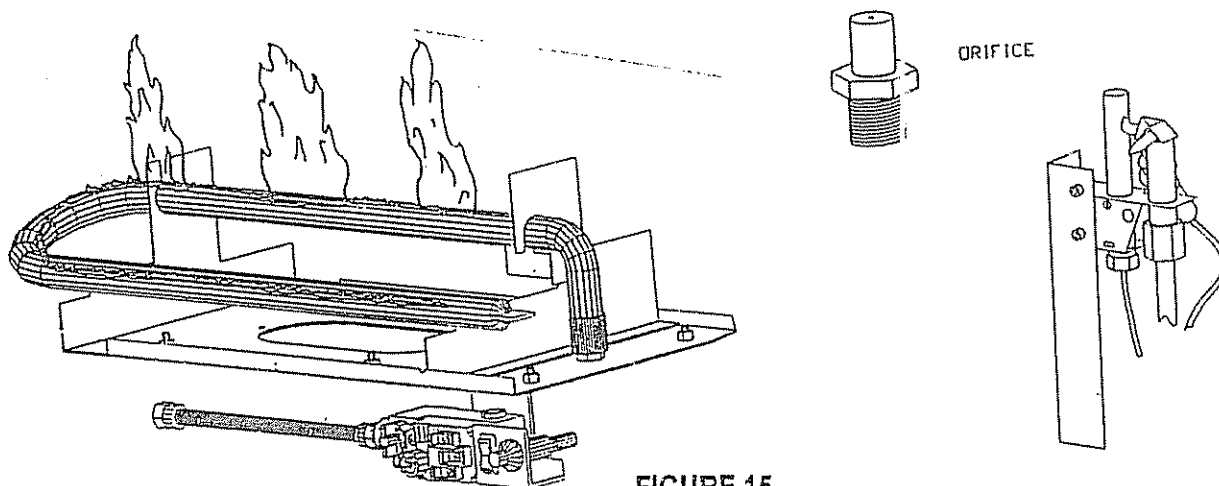

FIGURE 15
6. Visually check the pilot light and burner when they are burning. See figure 15. The flames should be steady, not lifting or floating.